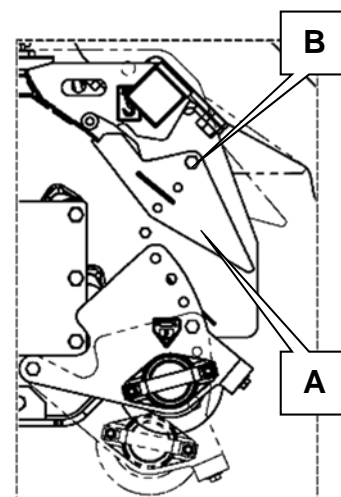

Figure 1.10
1.5.2.2 The adjustable rear guard (see Figure 1.10 A) is fastened at each end of the cowl by a bolt (see Figure 1.10 B).